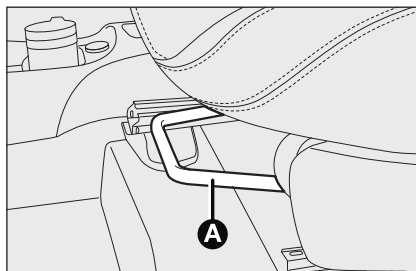

fig. 16
#### Fore/aft adjustment fig. 16
**WARNING** Using the lever **D** before locking the seat in the initial position causes the loss of the seat initial position. In that case, it is necessary to adjust the seat position by means of the longitudinal adjustment **fig. 16**.